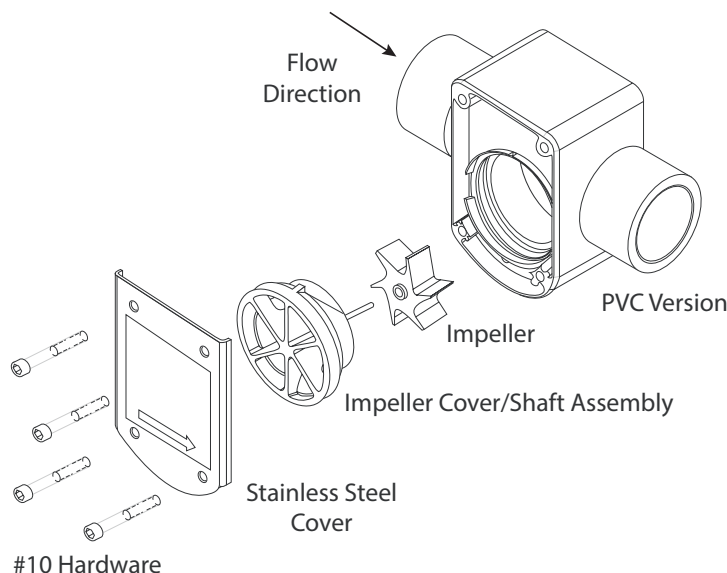

Figure 2: Assembly and shaft replacement
6. Insert the impeller into the cavity of the sensor housing, making sure the six blades are pointing into the flow direction. The unit does not operate if the impeller is positioned incorrectly. For example, if flow direction is to the right, position the impeller with blades pointing to the left. See *Figure 2*.